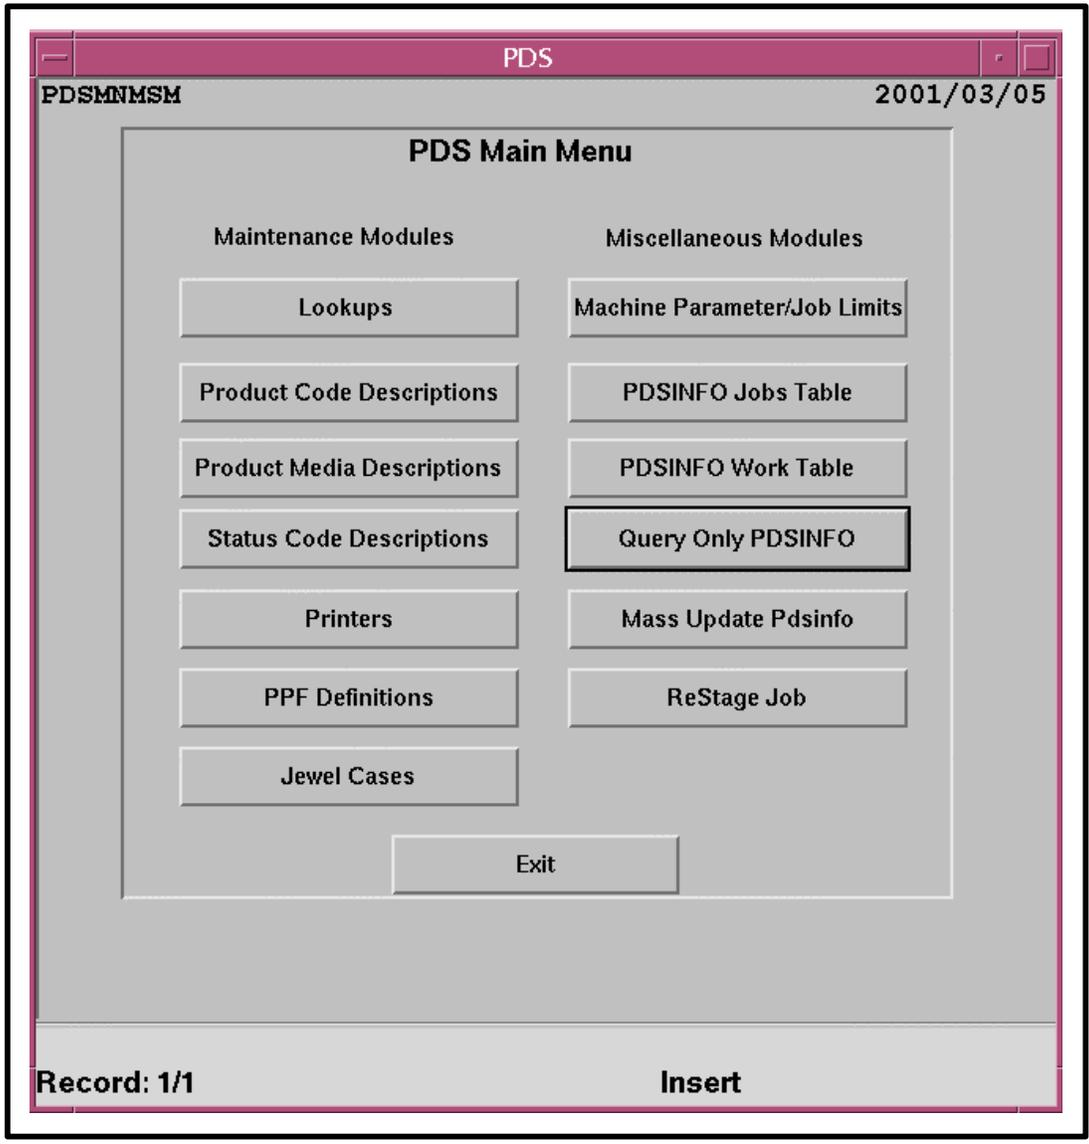

Figure 32. PDS Maintenance Module Main Menu
- The PDS **Maintenance Module Main Menu** (Figure 32) is displayed.
Shutting down the PDS Maintenance Module starts with the assumption that the applicable servers (e.g., the Oracle DBMS server) are running and either the PDS **Maintenance Module Main Menu** (Figure 32) or one of the maintenance modules is being displayed.
- If the maintenance module window was dismissed, the PDS **Maintenance Module Main Menu** (Figure 32) is displayed.